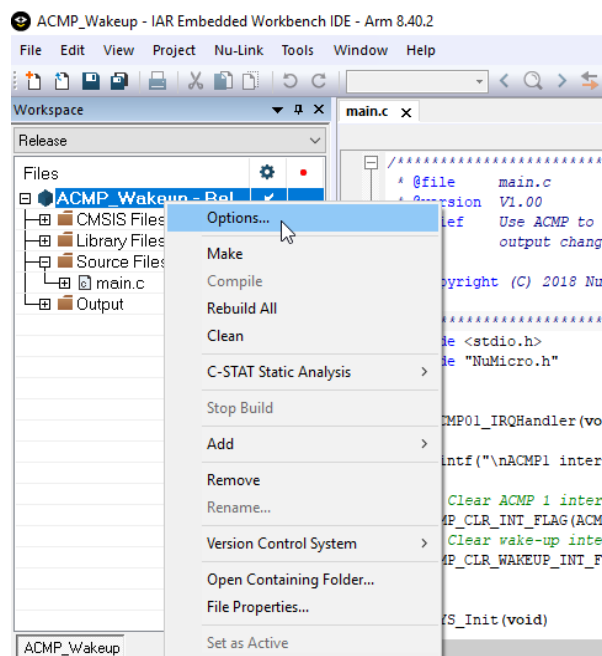
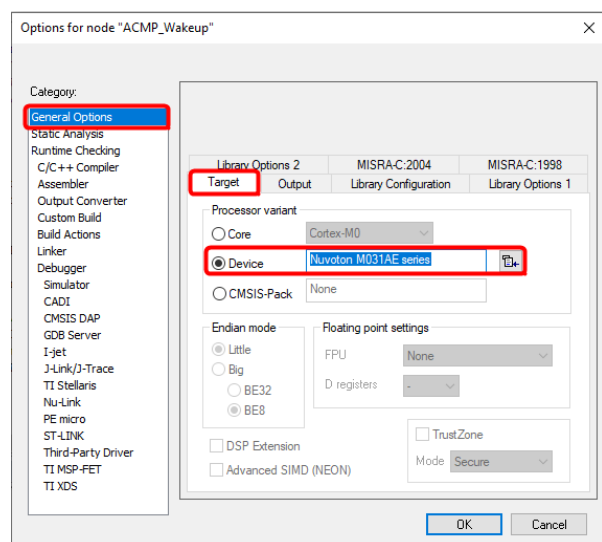

Figure 5.2-26 Options Selection
Figure 5.2-27 IAR EWARM Target Chip Selection
- (1) Install IAR EWARM. Make sure that Nu-Link IAR Driver for IAR EWARM has been downloaded and installed before setting the Nu-Link2-Pro such that the IAR EWARM can recognize the Nu-Link2-Pro.
- (2) Open IAR EWARM, and open the project to be set.
- (3) In the **Target** tab of the **General Options** page (through invoking **Project** → **Options**), click the button in the right of the **Device** option (make sure the **Device** option is enabled), and select “**Nuvoton** → **Nuvoton M031AE series**” as the target chip (M031AE series is this case), as shown in Figure 5.2-26 and Figure 5.2-27.